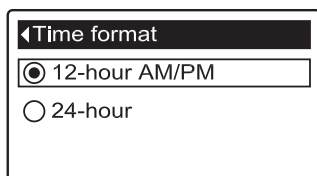

FIG. 45
1. From any of the rolling status screens, press the SELECT (O) button to display the **Main menu**.
3. Press the SELECT (O) button to display the User preferences menu.
5. Press the SELECT (O) button to display the Time format menu (See Figure 45).
6. If the desired time format already has a black dot next to it (See Figure 45), go to Step 7. Otherwise, press the DOWN (▼) or UP (▲) buttons to scroll to the other time format, then press SELECT (O) to choose it.
7. Press the SELECT (O) button. The display will go back to the User preferences menu.